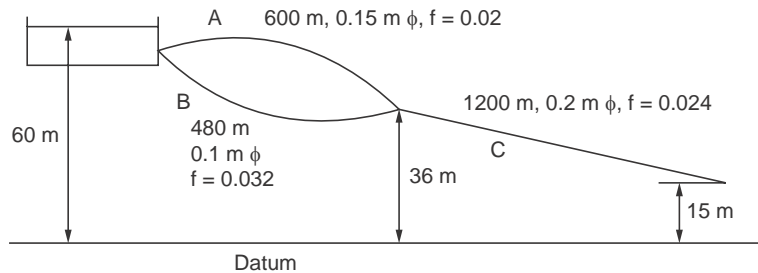

Figure E. 7.9
- E 7.9.** Pipe lines as shown in Fig. E. 7.9 provide water supply from a reservoir. Determine the flow rates in lines C, A and B.